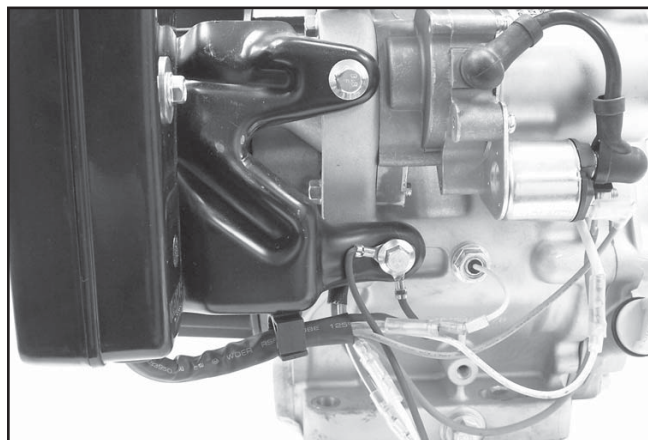

Figure 11-69. Mount and Torque Control Panel Hex Flange Screws.
3. Mount the control panel to the crankcase and secure with two hex flange screws. Ensure the ground wires are placed between the screw and the bracket. Torque the screws to **24 N·m (212 in. lb.)**. See Figure 11-69.